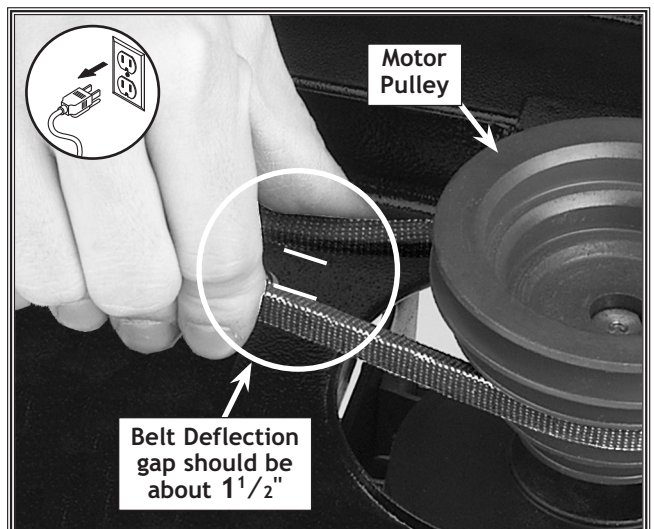
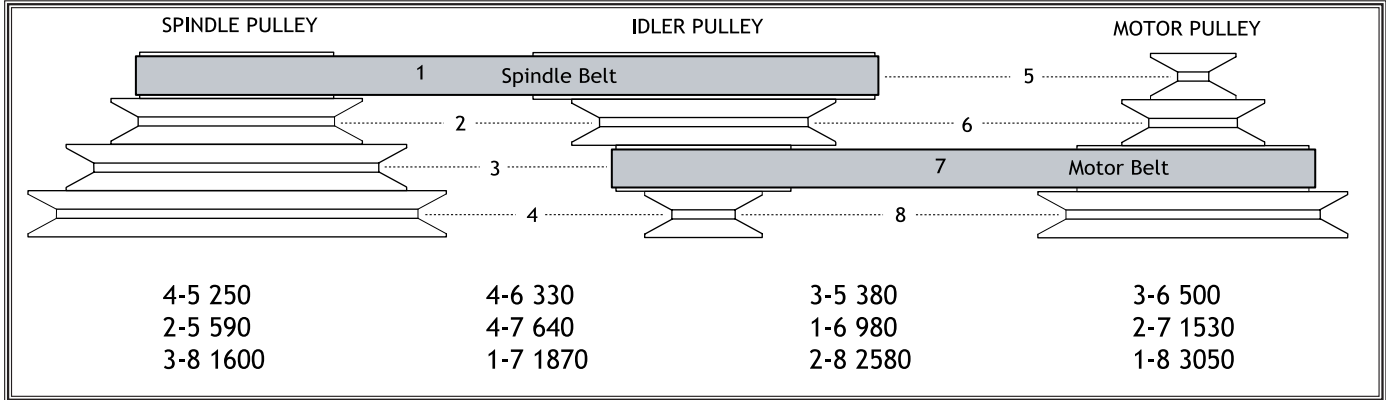

Figure 35. Measuring belt deflection.
Figure 36. Drill Press RPM Chart.
7. Tighten the lock screw, and make sure the belt deflection is 1 1/2" between both inner sides when the belt is pinched together between the pulleys, as shown in Figure 35. Refer to "Belt Tension" in the ADJUSTMENTS section on Page 15 for details.
Use **Figure 35** to select the optimum motor-to-spindle pulley ratio for drilling, cutting, and sanding operations. The belt setting in the example in **Figure 36** shows the spindle belt in the #1 spindle pulley position and the motor belt in the #7 motor pulley location. This will produce a speed of 1,870 RPM. Refer to the **Drill, Cutter, and Saw RPM Chart on Page 21** for suggested tool RPMs.